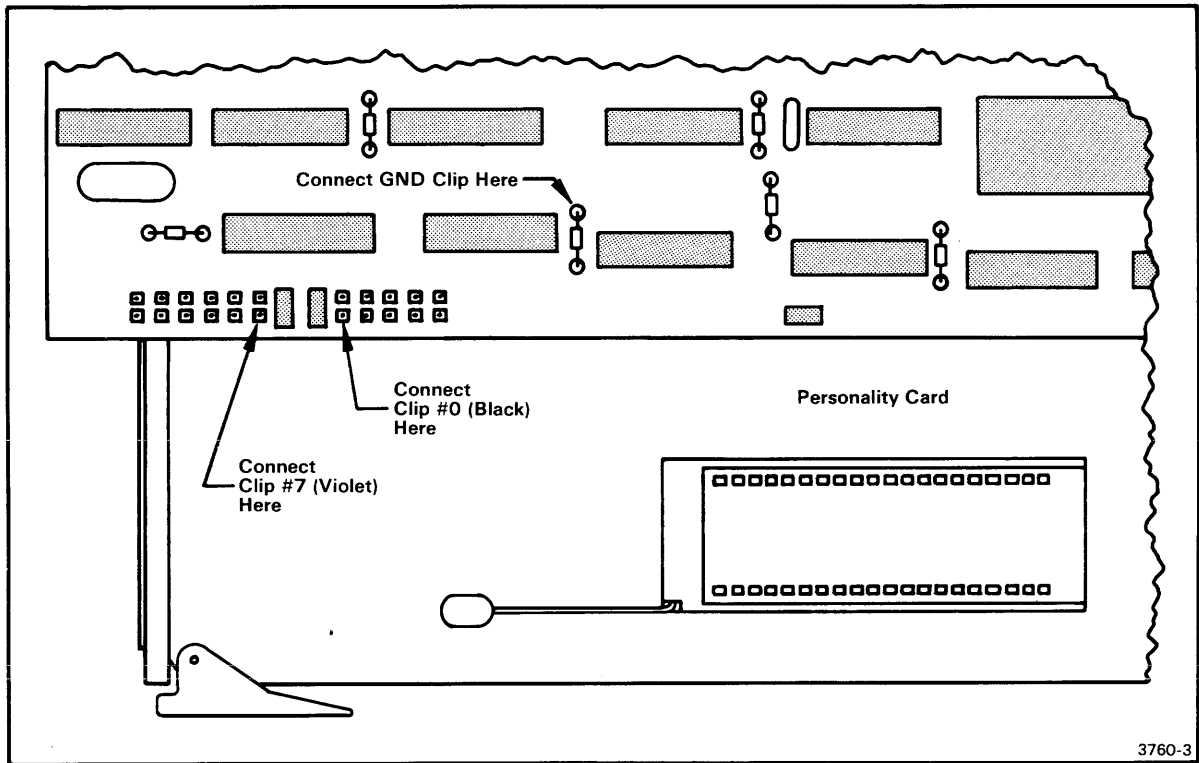

Fig. 5-2. Test-clip Positioning.
2. Refer to Fig. 5-2. This figure illustrates the near edge of a circuit board that protrudes from the MicroLab I above the personality card. Along the exposed edge of this upper board is a row of jumper positions with two jumpers in place. Connect test-clip 0 (the black lead) of the Data Acquisition Probe to one of the square pins in the row of pins closest to the board edge. Note that each pin in this nearer row of square pins is tied together. Next, connect test clip 7 (the violet lead) to one of the square pins in this same row. Then, connect the ground (gnd) test clip of the Data Acquisition Probe as shown in Fig. 5-2. Do not connect the clock test clip.